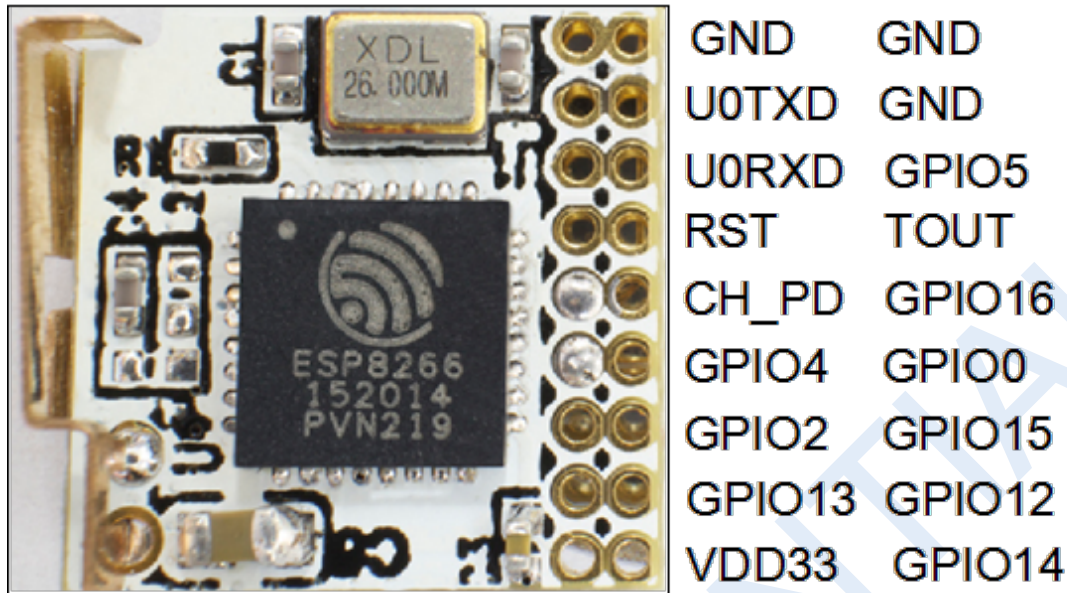

Figure 6: WROOM DIP Module
Refer to Figure 6 for and pin definition.
1.3.3. Smart Light Application (as in Fig. 6 Smart Light Demo)